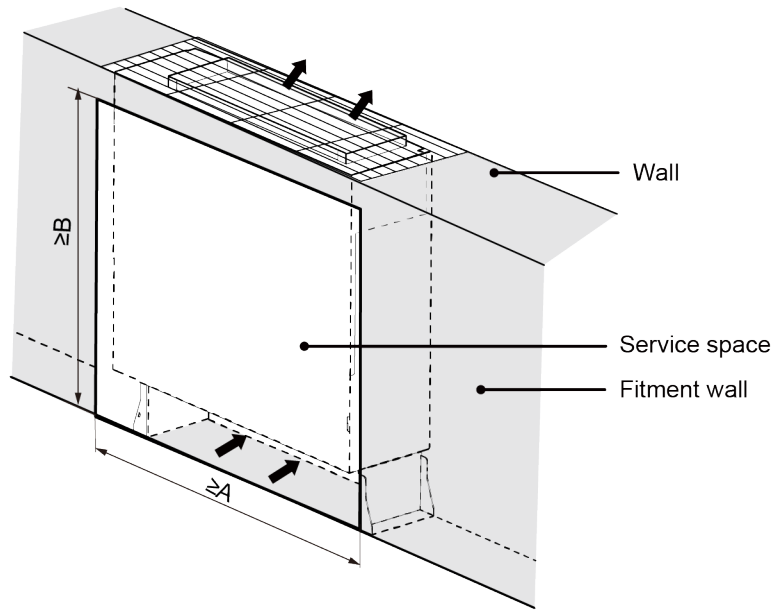

Fig.3.2.1
- (1) The appliance shall not be installed in the laundry.
- (2) The location should be able to withstand the weight of unit.
- (3) The ground for installing unit shall not be slant apparently.
- (4) Drain pipe can drain water out easily.
- (5) There is no obstacle in inlet or outlet. Please ensure good air circulation.
- (6) In order to make sure the space for maintenance, when the indoor unit was concealed installation, according to the dimension as shown in Fig.3.2.1.